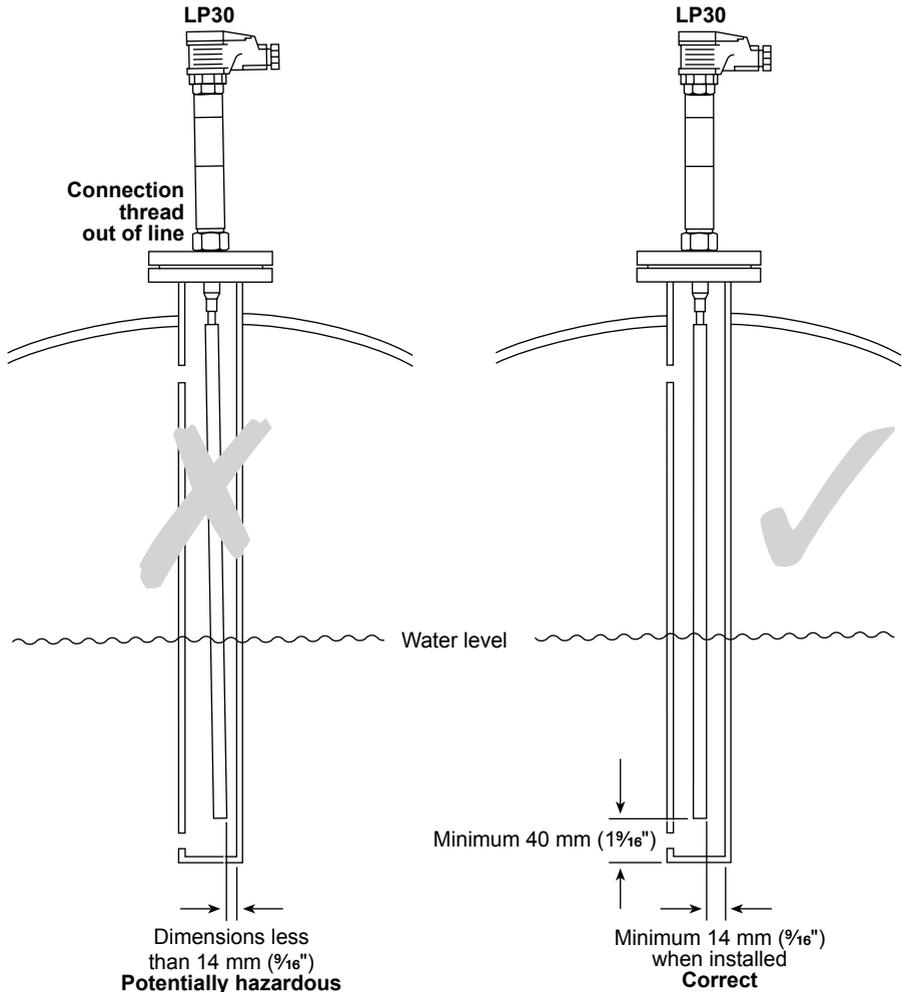

Fig. 12
When correctly carried out, the test will ensure that the final probe tip position is at least 14 mm ( $\frac{9}{16}$ " ) from the protection tube. See Figure 12.
- Protection tube not of large enough bore and/or not deep enough (the tube should be at least 40 mm ( $1\frac{1}{8}$ ") deeper internally than the end of the probe, see Figure 12).